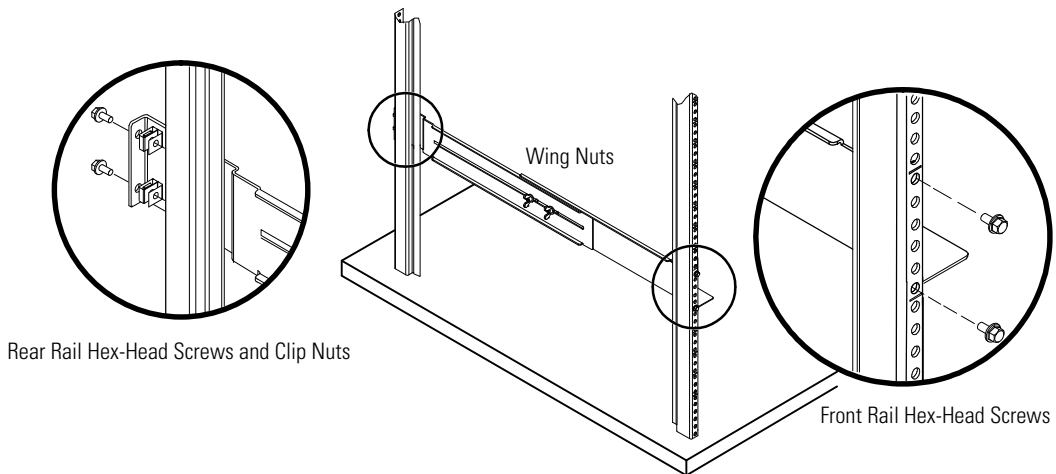

Figure 4. Securing the Front and Rear of Rails (Left Rail on Typical Rack Shown)
4. Use the supplied hardware to secure one rail assembly to the rack as shown in Figure 4: